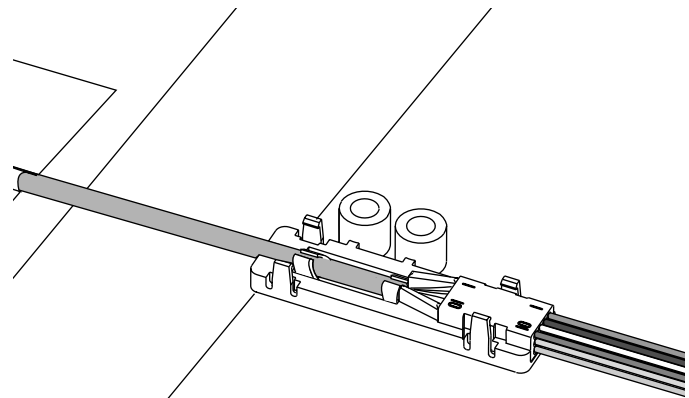

Figure 27
**9.8** Lower the insert section into the BTF body and press it into place (Figure 27).